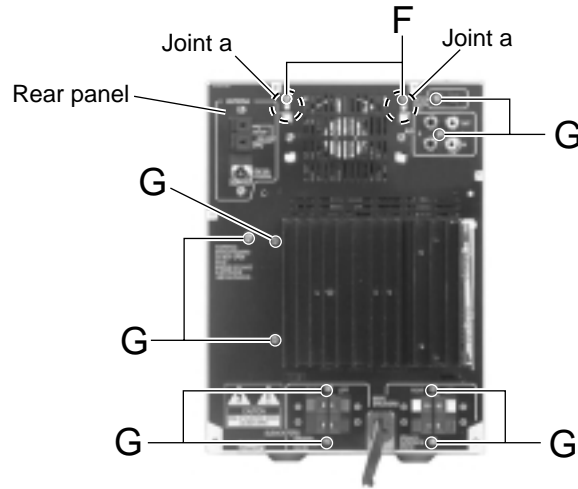

Fig.8
**Remove the rear panel (See Fig.8 to 11)**